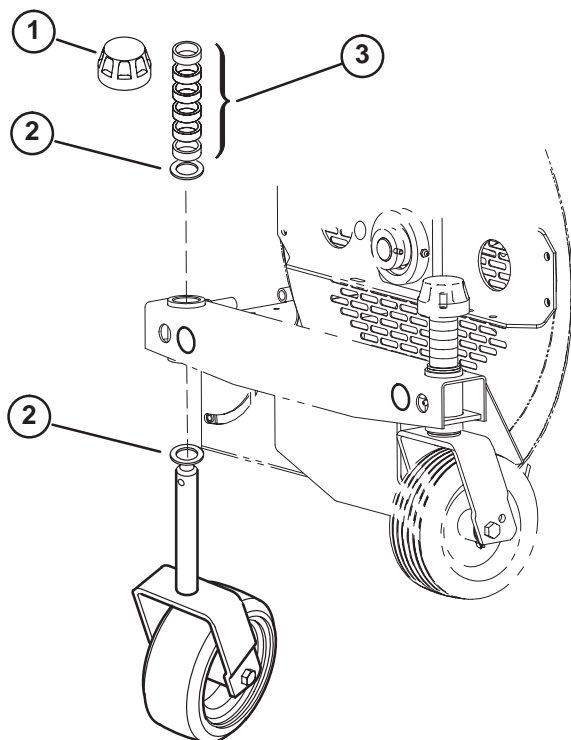

Figure 2
1. Remove tensioning caps from spindle shafts and slide off castor wheel, spacers and thrust washers (Fig. 2).